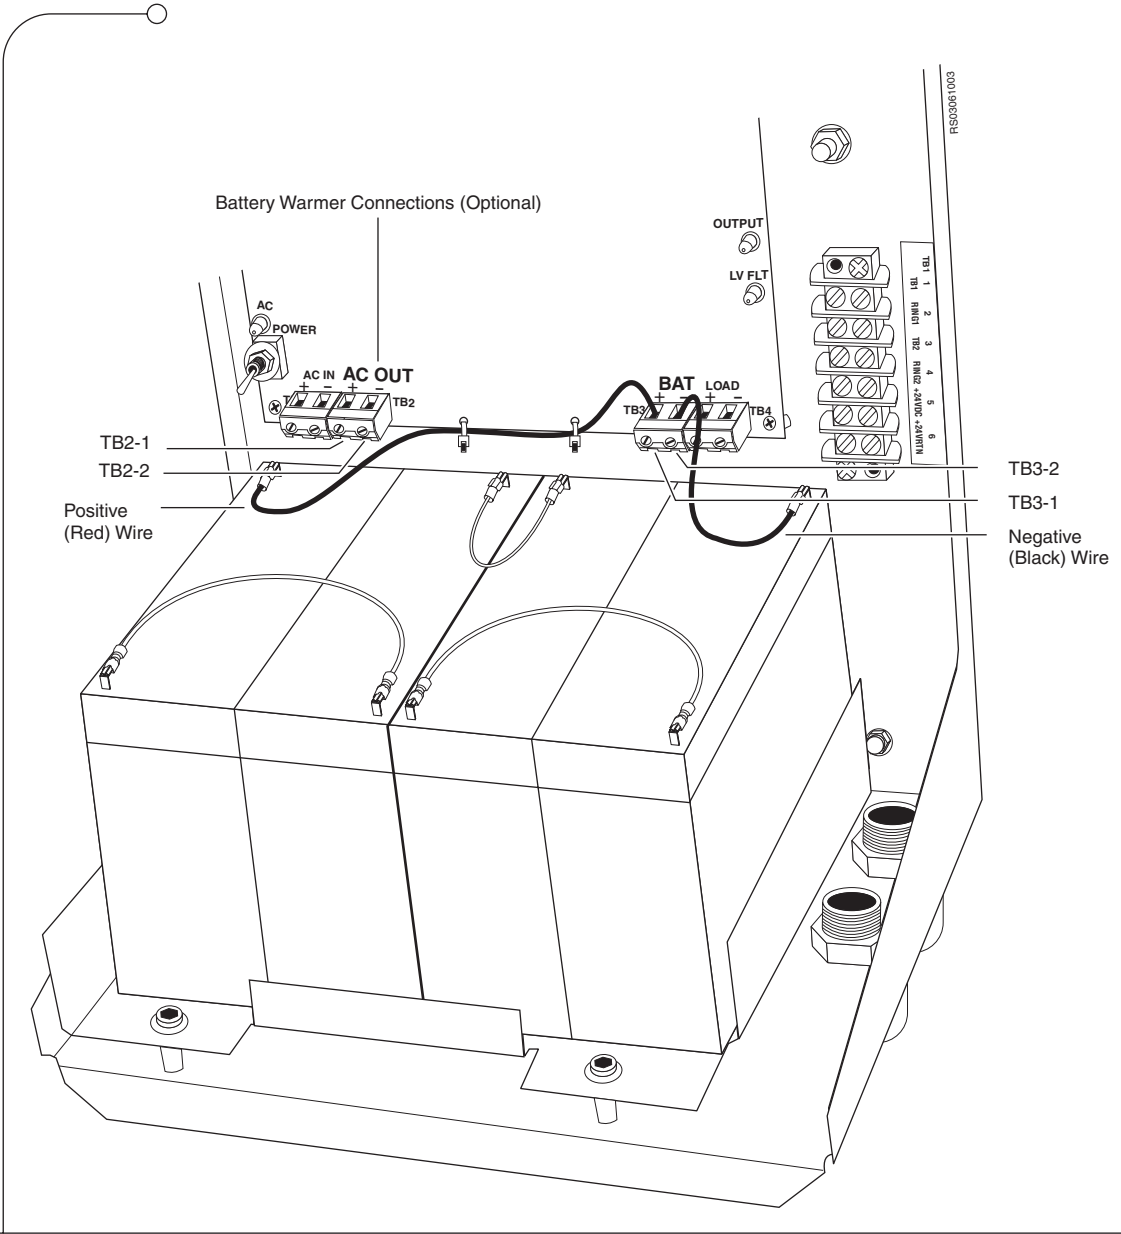

Figure 3.20 STS Power Pack Battery Connection
1. Connect the positive (red) wire from the battery to TB3-1 on terminal block BAT as shown in Figure 3.20 on page 67.